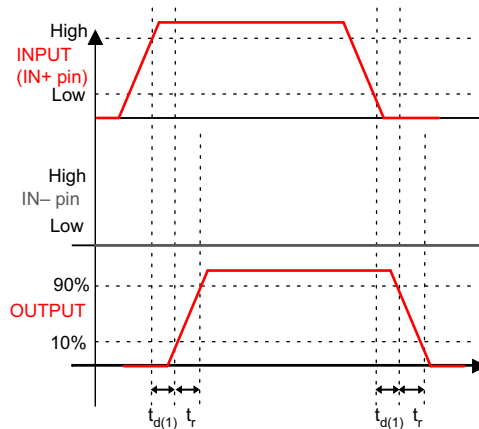
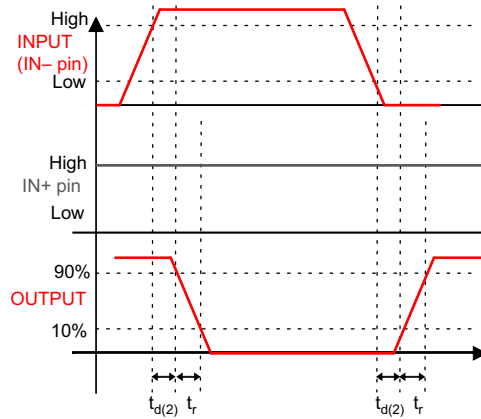

Figure 5-1. Non-Inverting Configuration (PWM Input to IN+ pin (IN– Pin Tied to GND), Output Represents OUTH and OUTL Pins Tied Together in the UCC27511A)
図 5-2. Inverting Configuration (PWM Input to IN- Pin (IN+ Pin Tied to V_{DD}), Output Represents OUTH and OUTL Pins Tied Together in the UCC27511A)
$V_{DD} = 12\text{ V}$, $T_A = T_J = -40^\circ\text{C}$ to 140°C , $1\text{-}\mu\text{F}$ capacitor from V_{DD} to GND. Currents are positive into, negative out of the specified terminal. See Figure 5-1, Figure 5-2, Figure 5-3, and Figure 5-4
(1) See timing diagrams in Figure 5-1, Figure 5-2, Figure 5-3, and Figure 5-4.